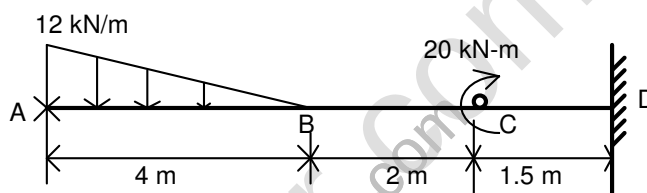

Fig. 1
2. Draw shear force and bending moment diagrams for the beam shown in Fig. 1 and indicate the main values. (15M)